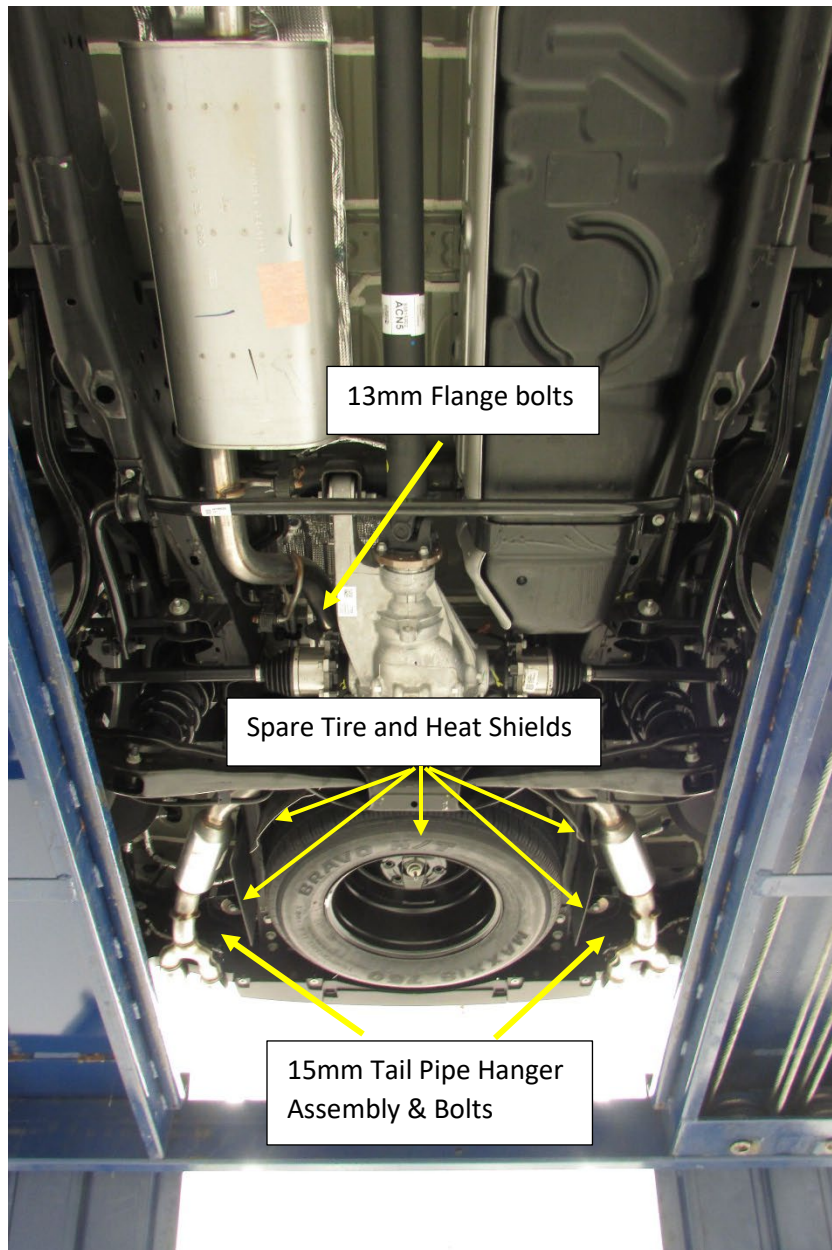

Figure.1
2. Remove the rear hanger assemblies from the tail pipes and save for reuse. **Fig.1**
3. Remove the (2x) 13mm nuts at the tail pipe mounting flange just over the rear axle. Remove the tail pipe assembly from the vehicle. **Fig. 1**